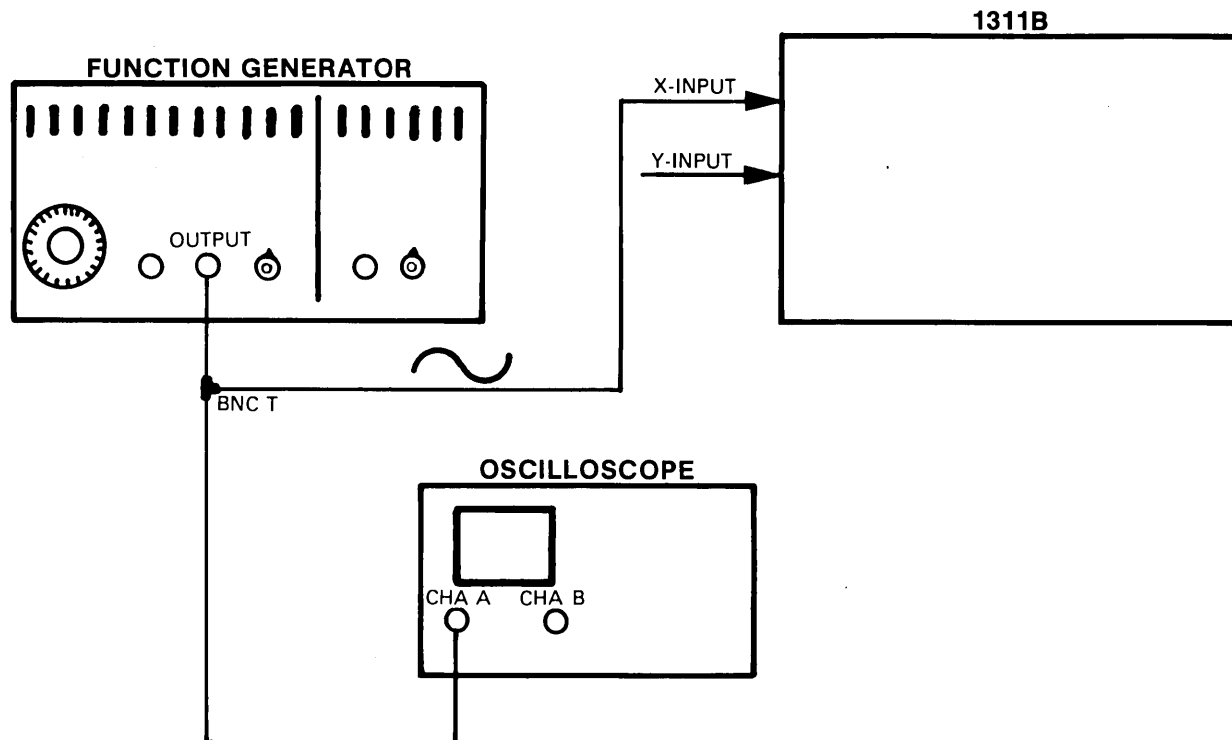

Figure 4-1. Amplifier Bandwidth Test Setup
- a. Connect equipment as shown in figure 4-1.